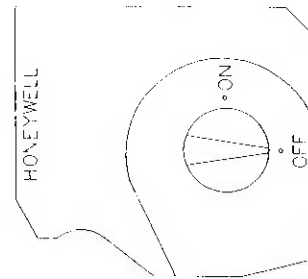

Figure 1
2. Turn gas valve knob (located behind fryer door) to OFF position. See Figure 1.